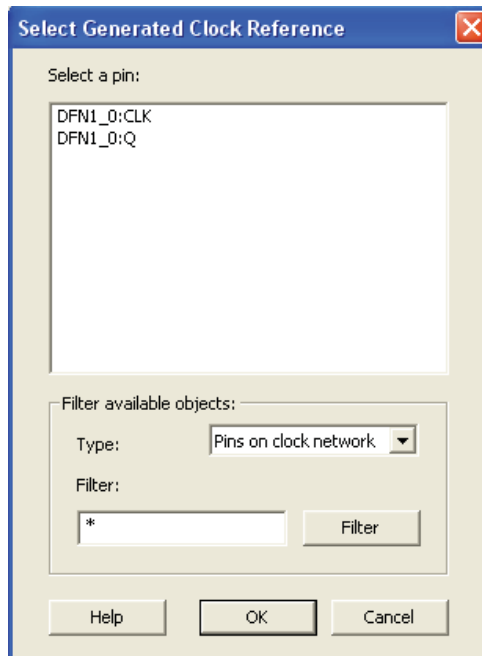

Figure 57 • Select Generated Clock Reference Dialog Box
- Browse to select a Reference Pin. The Select Generated Clock Reference dialog box displays the list of available clock reference pins, as shown in Figure 57.